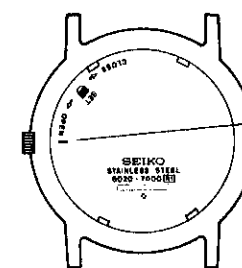

Fig. 1
- To open, turn in the direction of "OPEN" from the "CLOSE" position (Fig. 1) until the " SET " mark lines up to the crown.